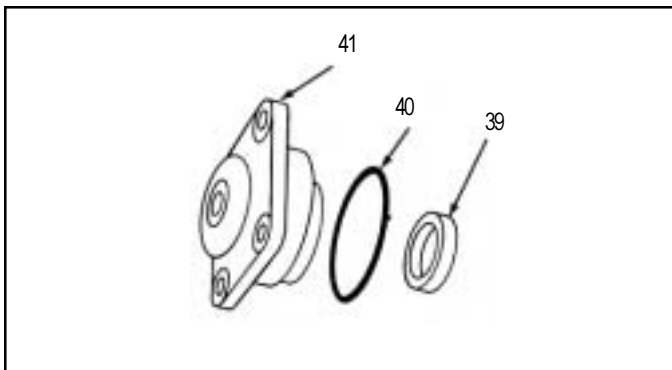

FIGURE 24
15. Remove O-ring(40) and seal(39). (See Figure 24)